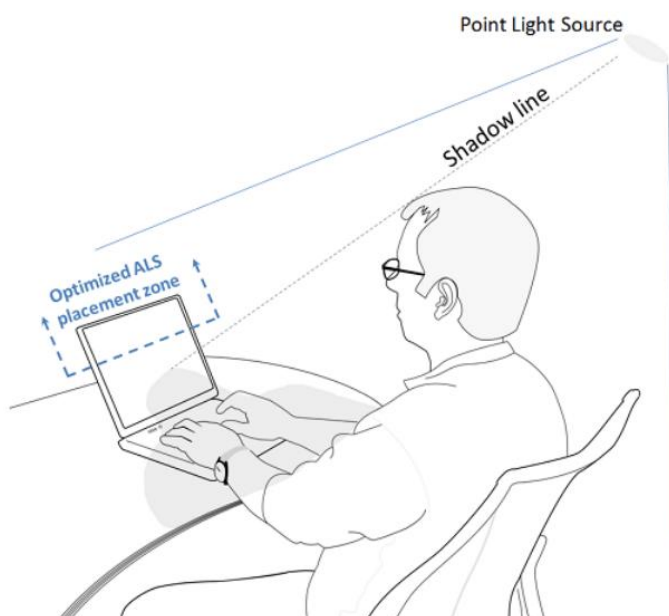

Figure 19-5
- When the optical sensor is in Layout, the user experience must be considered. It is recommended to place nearby the front-facing camera, and try not to place other luminophor around the sensor, shown as Figure 19-5.